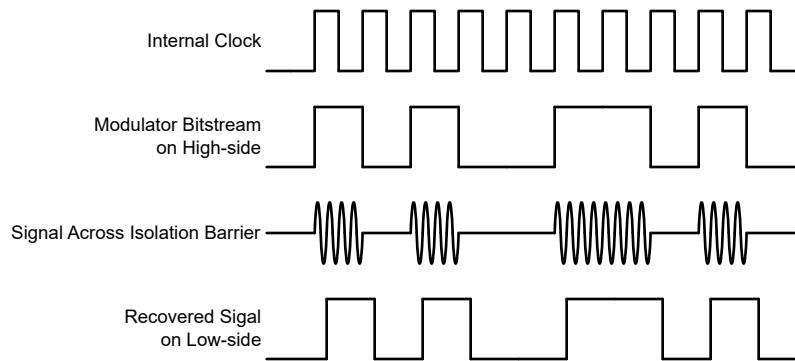

Figure 7-1. OOK-Based Modulation Scheme
As shown in Figure 7-1, the AMC0x30R uses an on-off keying (OOK) modulation scheme to transmit the modulator output bitstream across the SiO_2 -based isolation barrier. The transmit driver (TX) is illustrated in the Functional Block Diagram. TX transmits an internally generated, high-frequency carrier across the isolation barrier to represent a digital one. However, TX does not send a signal to represent a digital zero. The nominal frequency of the carrier used inside the AMC0x30R is 480MHz.